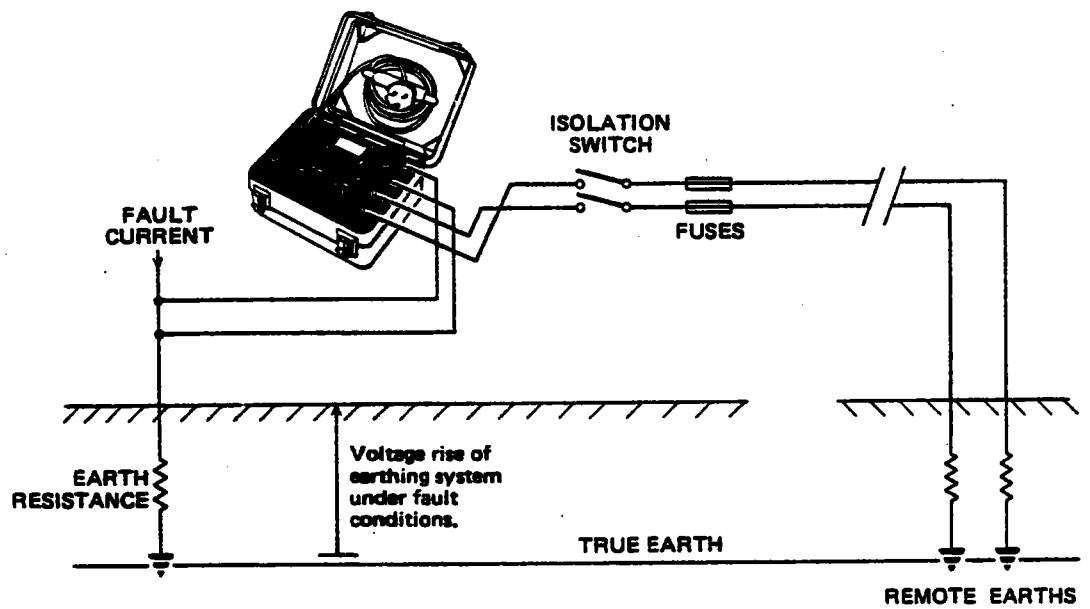

Figure 1 A method of connection where fault conditions may occur
3. The P2 and C2 terminals must be connected to an isolation switch, whose rating will cope with the maximum fault voltages (refer to fig. 1).
If a fault occurs while a test is being made the instrument may be damaged. Fusing of the remote electrodes at the isolation switch with 100mA fuses, of suitable rating to cope with the maximum fault voltage, will provide protection for the instrument (see fig. 1).